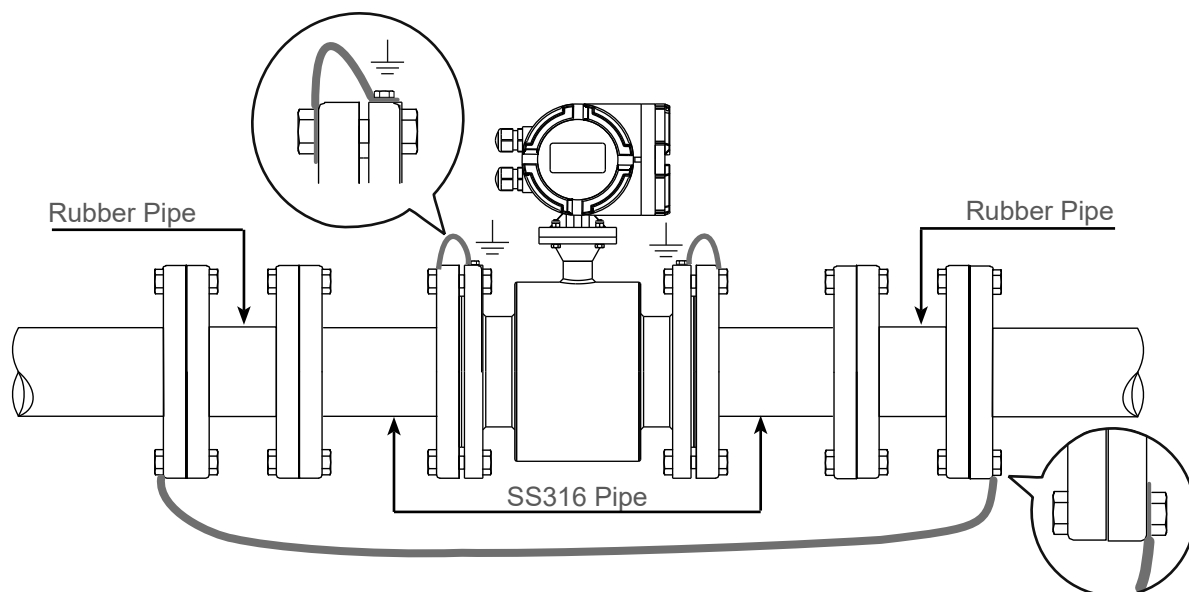

Fig.19A Pipe segmentation
- c) Some systems, such as pipes with cathodic protection, may be affected by potential disturbance because not all the line is at ground potential. In order to eliminate this type of interference, the line must be isolated with two rubber pipes as shown in **Fig.19A**.